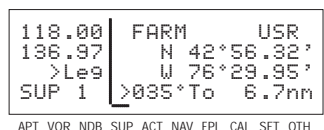

Figure 4-87
- Press **ENT** to approve this position. The cursor will automatically turn off (figure 4-87).